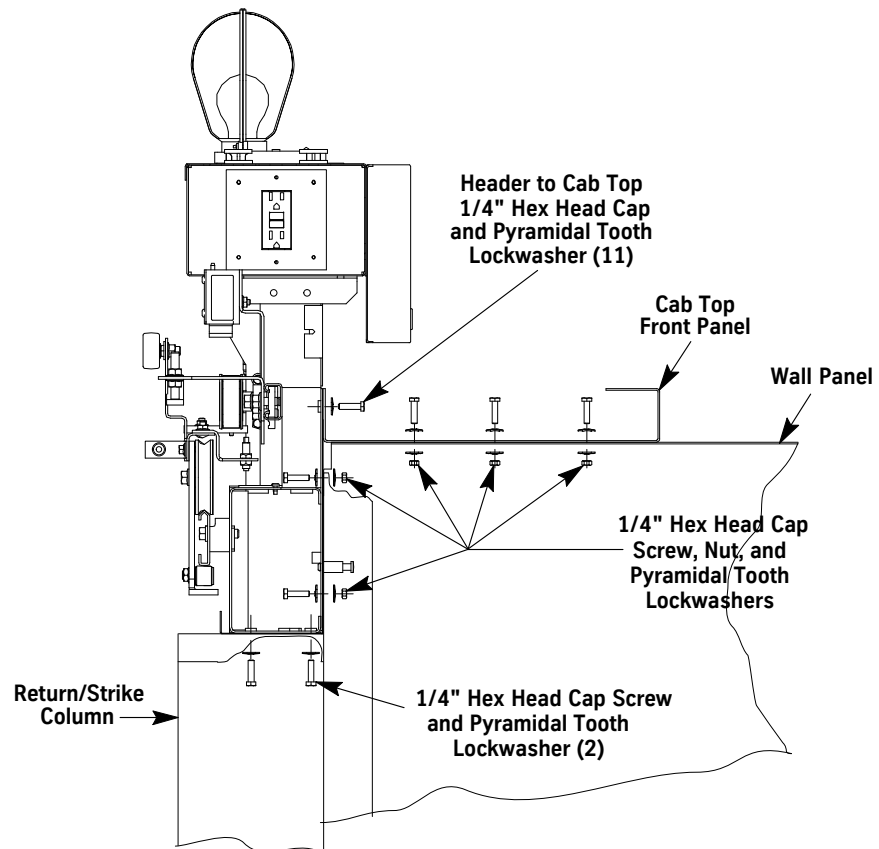

Figure 1 - Mount the Door Operator and Header Assembly to the Cab
1. Place and fasten the operator. See Figure 1.